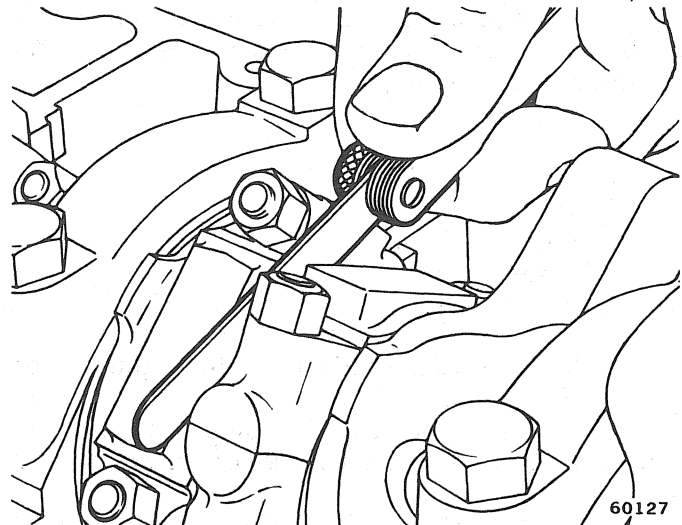

Fig. 1B-131 Connecting Rod Side Clearance Measurement
- (1) Rotate crankshaft to position where connecting rod journal is at bottom of stroke.
- (2) Insert snug fitting feeler gauge between connecting rods (fig. 1B-131).